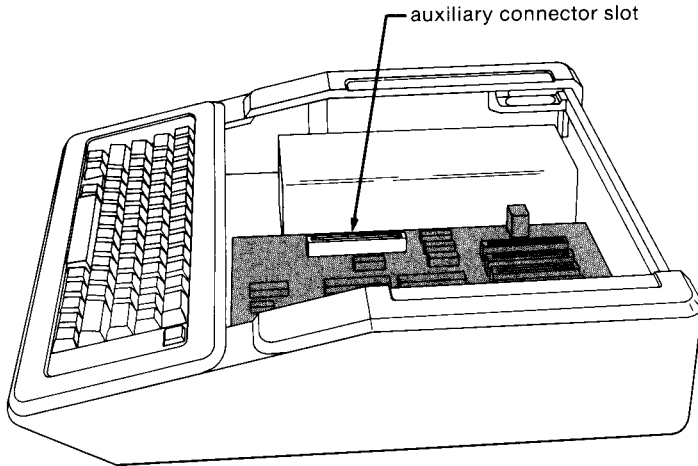

Figure 2.4. Auxiliary Connector Slot
8. Using Figure 2.4 as a guide, locate the **AUXILIARY CONNECTOR** slot. If there is an accessory board in that slot, remove the board and store it in a safe place.